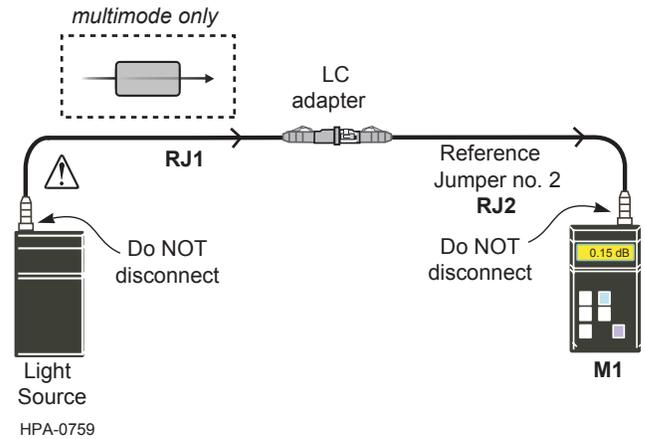

Figure 9
**Step 6:** Clean and install an LC to LC jumper-Reference Jumper no. 2 (**RJ2**) into **M1** and the LC adapter (Figure 9).